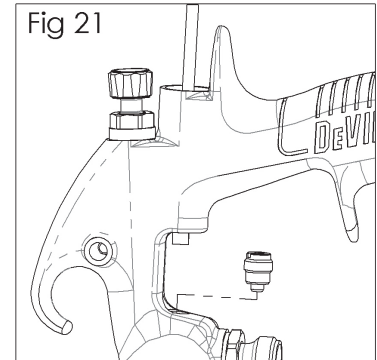

Fig 21
4. Re-assemble the packing, assemble into gunbody by hand and then tighten. (See fig 21)